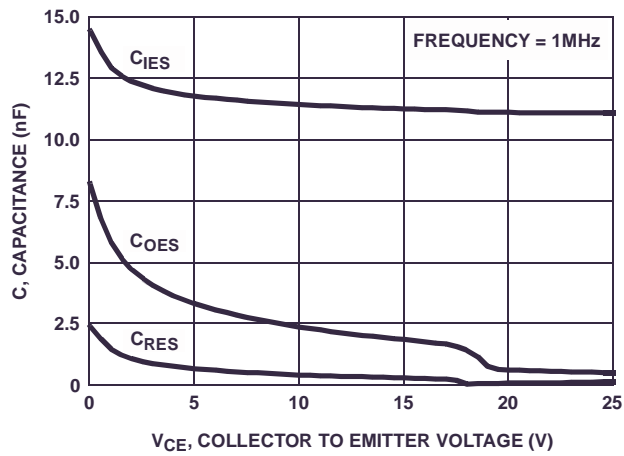

FIGURE 17. CAPACITANCE vs COLLECTOR TO EMITTER VOLTAGE
- Values for two Turn-On loss conditions are shown for the convenience of the circuit designer.  $E_{ON1}$  is the turn-on loss of the IGBT only.  $E_{ON2}$  is the turn-on loss when a typical diode is used in the test circuit and the diode is at the same  $T_J$  as the IGBT. The diode type is specified in Figure 17.